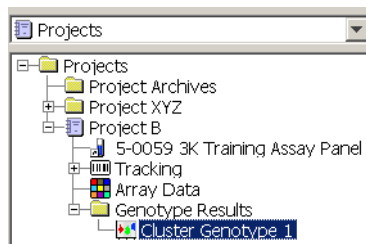

Figure 3.19 Selecting a Cluster to View Genotype Results
- 1.** Expand the **Genotype Results** folder for your project (Figure 3.19).